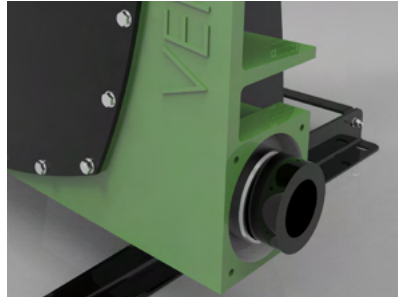

Figure 16a
1. Insert the clamp ring over the hose and into the pump housing; allow the hose to slightly protrude past the clamp ring. (Figure 16a and b)